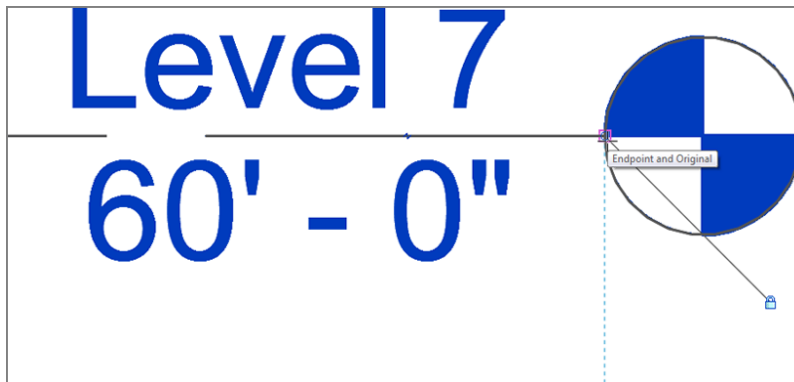

FIGURE 3.9: The selected level
2. Select Level 7 by picking (left-clicking) either the text or the level line. This puts the focus on the level line. Notice that the text turns blue. You know that any blue item can be modified (see Figure 3.9).